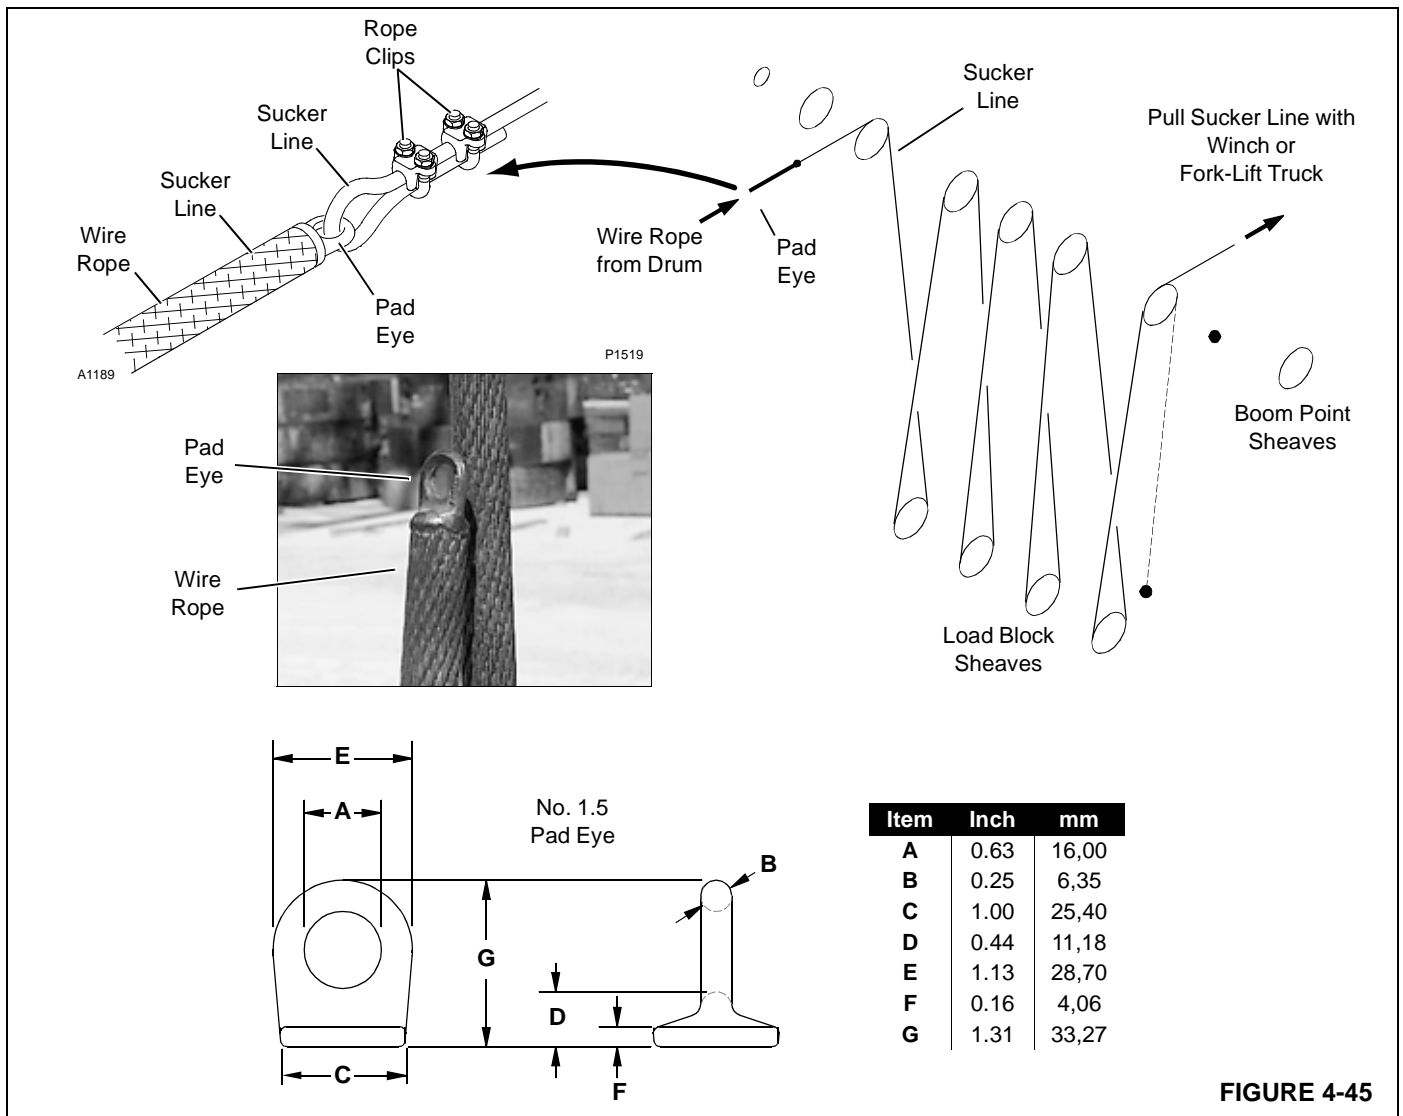

FIGURE 4-45
See Figure 4-45 for following procedure.
- Original dimensions have changed (Figure 4-45).